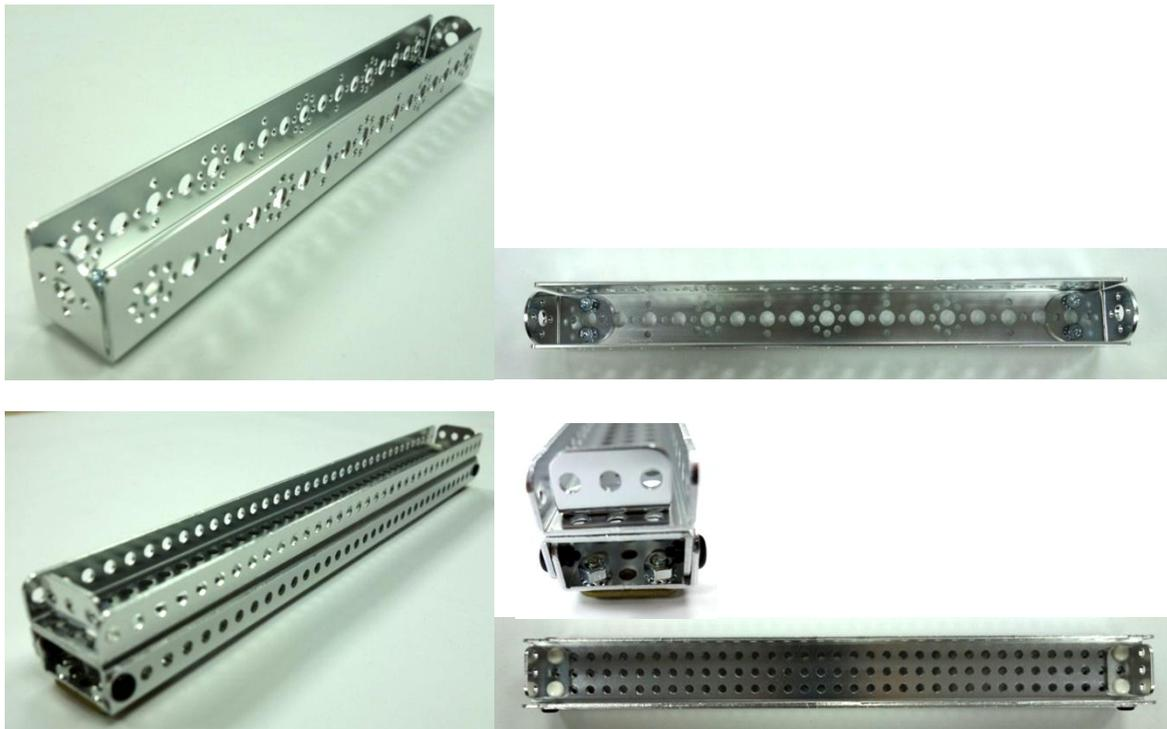

Figure 4 Ball rack using Tetrax or Matrix
- 4.5. The balls will be placed randomly on a ball rack with a length of 292 mm, width of 32 mm, and height of 32 mm. The ball rack will be assembled from Matrix or Tetrax parts (figure 4).